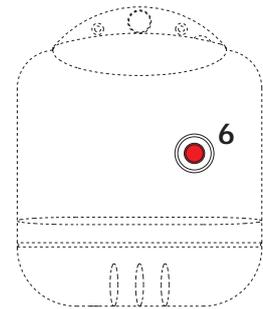

fig. 1
For brief periods of inactivity, simply move switch 5 (Fig. 1) on the control panel to position "0".
a - Burner lockout signalled by the corresponding light 6 (Fig. 1). Refer to the burner manual.
- 2 Set the thermostat 4 (Fig. 1) to the desired value.
- 3 Close the switch upstream from the boiler and switch 5 (Fig. 1) on the control panel.
For brief periods of inactivity, simply use switch 5 (Fig. 1) on the control panel.